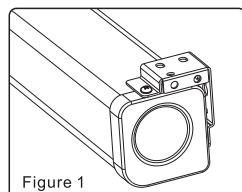

Figure 1
Using a tape measure, measure the distance between the two keyholes on the casing (figure 1) .
2. There are two way for wall brackets to fix on the housing. As you can see on the figure 1, which is our normal fixed way (namely factory set). While the other fixed way is to interchange the left and right wall brackets, and then fix onto the housing (namely functional installation way, as figure 2).
Using a tape measure, measure the distance between the two keyholes on the casing (figure 1). According to the measurement, use the drill to drill identical holes of the appropriate size on the wall (use a smaller drill bit than the actual screws) and ensure that it is level (figure 2 & 3). Screw in the appropriate screws, either 5 x 40 by itself for wood walls or with anchors for drywalls, leaving enough space at the end to hang the casing (figure 4). To ensure that the screen is level, use a level to check (figure 5).
Using a tape measure, measure the distance between the two keyholes on the casing (figure 1). According to the measurement, use the drill to drill identical holes of the appropriate size on the ceiling (use a smaller drill bit than the actual screws) and ensure that it is level (figure 2 & 3). Screw in the hook screws (not provided), and lift the screen into the hook screws to hang (figure 4). To ensure that the screen is level, use a level to check (figure 5).